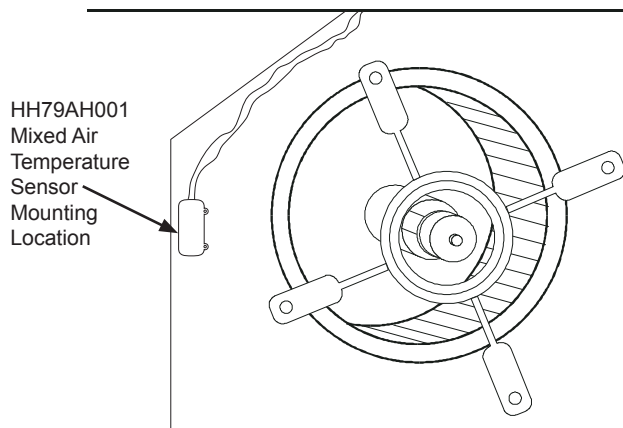

Fig. 10 - HH79AH001 Mixed Air Sensor Installation
13. Locate the HH79AH001 mixed (supply) air temperature sensor in the economizer hardware bag. A 2-wire SAT sensor harness with spade terminals is supplied with the sensor. Plug the harness into the top of the HH79AH001 sensor. See Figure 13 for sensor photo. Mount the sensor in the indoor fan section of the unit, see Figure 10. Locate the orange and brown wires in the wire bundle in the indoor fan section. Connect these orange and brown wires to the 2-wire harness attached to the HH79AH001 Sensor. Mixed air default setting is 53°F and can be adjusted from 38°F to 70°F.